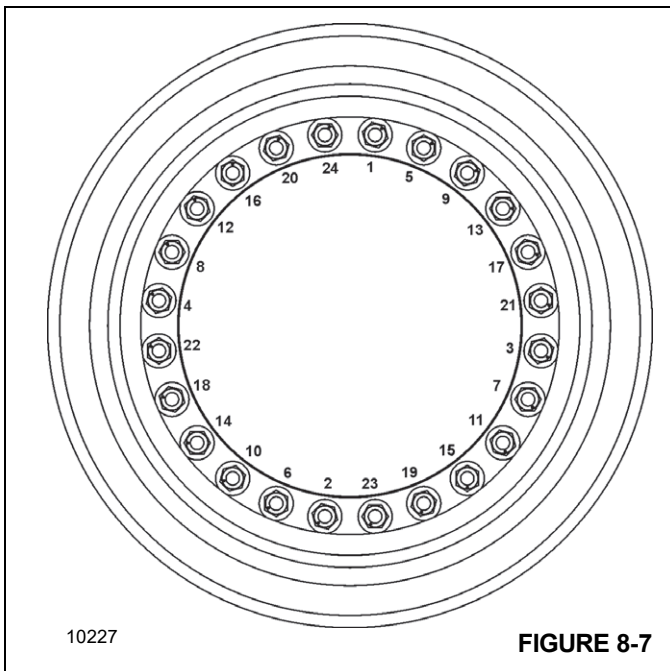

FIGURE 8-7
2. Position the wheel assembly on the wheel end pilot. Install the lug nuts and tighten them to 70 N-m (50 lb-ft) in the sequence shown in Figure 8-7.
4. Continue to torque the lug nuts 610 N-m to 680 N-m (450 lb-ft to 500 lb-ft) in the sequence shown in Figure 8-7.